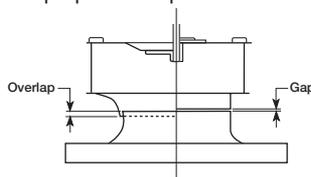

Figure 4
11. Rotate the wheel by hand to ensure that it does not rub and rotates freely. Wheel position is preset and the unit is test run at the factory. Movement may occur during shipment and realignment may be necessary. Refer to Figure 4 and chart for proper overlap dimensions.